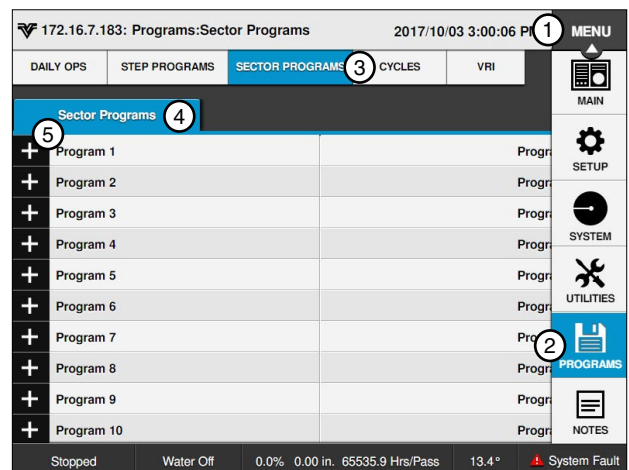

Figure 149-2 1. Menu 2. Programs 3. Sector Programs 4. Sector Programs 5. Add Program
1. Push **Menu**, **Programs**, and **Sector Programs** to view the Sector Programs screen. Refer to Figure 149-2.